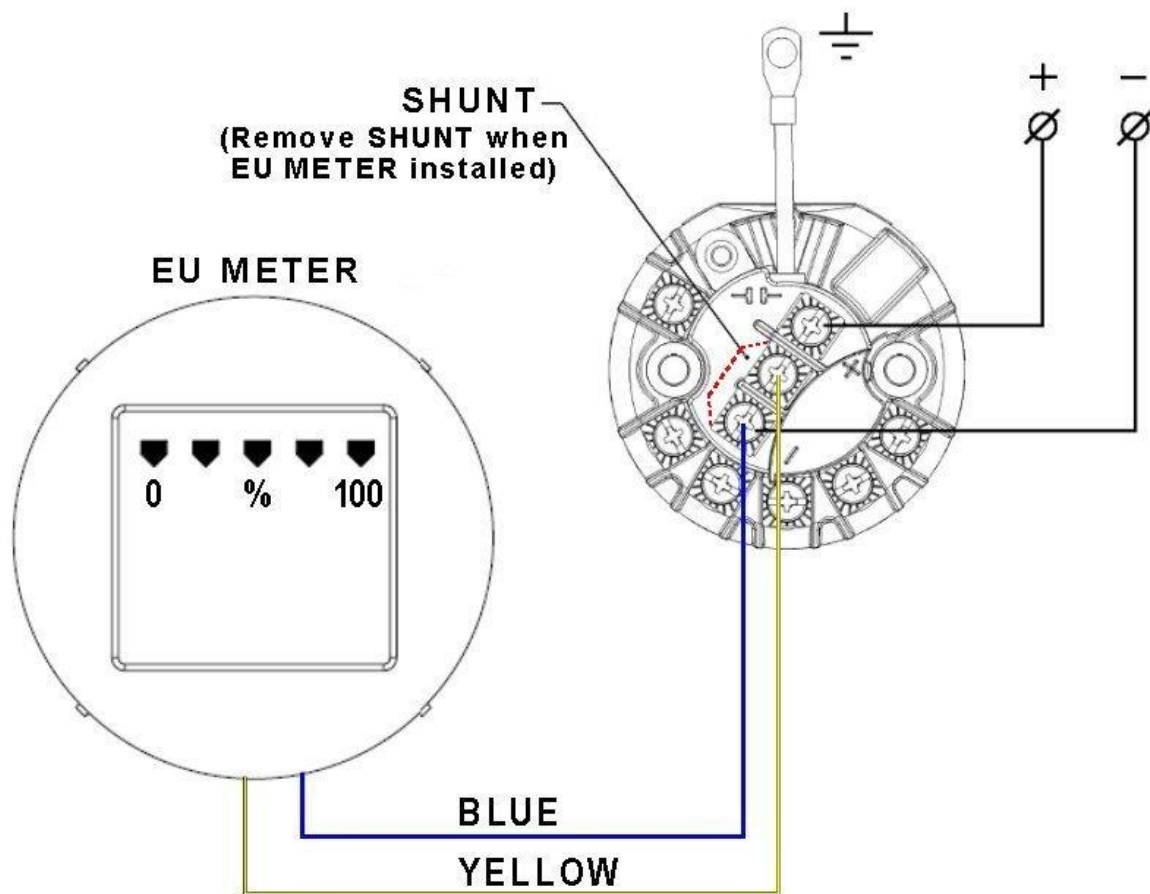

Figure 16 – Installation with EU Meter
- If an EU meter is used, wire according to Figure 16.